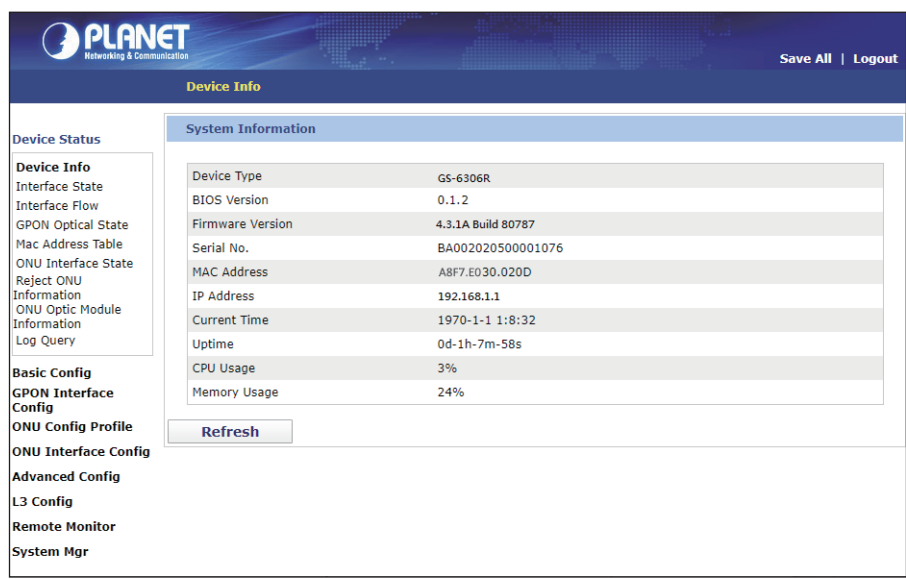

Figure 8-6: Web Main Screen of CS-6306R Chassis Switch
5. After entering the password, the main screen appears as shown in Figure 8-6.